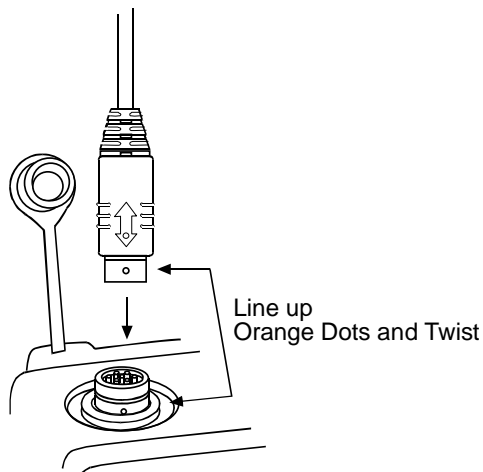

Figure 2: Headset Connection
In order for the U9912-BSW(EU) to be used, a David Clark H9900-series headset must be connected. To connect the headset, align the connectors as shown then push and turn clockwise (see **Figure 2**). There are separate left and right volume controls on the headset.